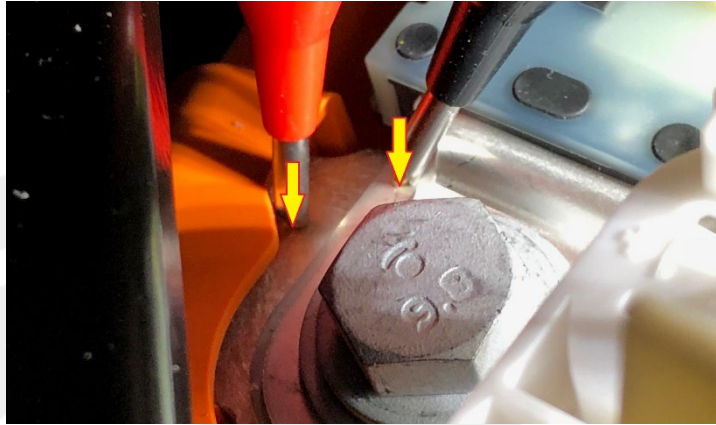

Figure 7
10. Use the Hioki resistance meter to measure the contactor DC link busbar joint resistance where a missing bolt was installed (Figure 7):